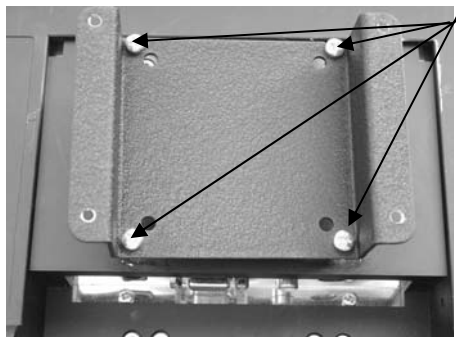

Figure 2. 75mm Bracket Installation
1. Secure the 75mm adapter bracket to your monitor using four M4 X 6mm Phillips head screws (provided) (see Figure 2).